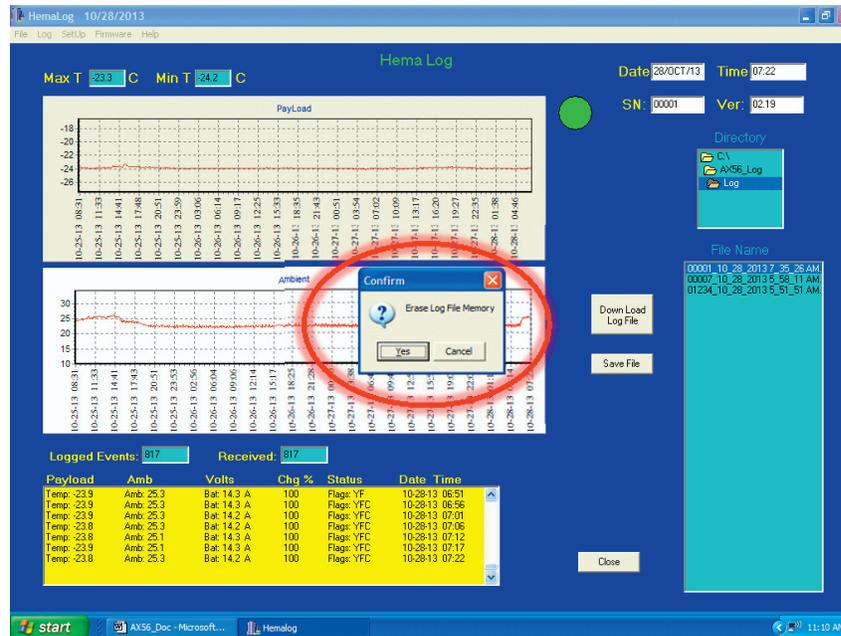

Figure 49. Example of an Erase Screen
- **Erase** screen (Figure 49) allows the user to erase the contents of the stored log file.
Click **Yes** on the **Confirm** dialog box to erase the onboard memory on the AX56L unit or click **Cancel** if you do not want to erase the memory (Figure 49).